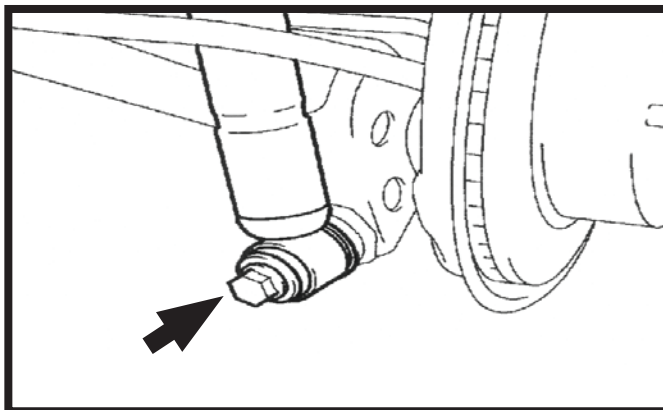

FIGURE 2
4. REMOVE THE BOLT AND SEPARATE THE SHOCK ABSORBER ASSY FROM THE REAR AXLE HOUSING. (FIGURE 2)